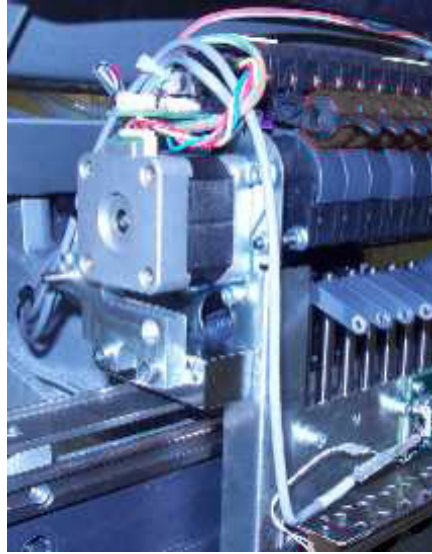

Figure 4 - Routing of Harness to Top of Needlecase
14. Run the harness to the left and then straight up and tie it at the top of the needlecase where the grabber motor harness is bundled. Pinch the harness with your finger to give it a 90 ° bend as shown in Figure 4 above.